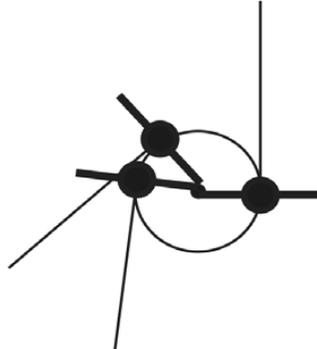

Fig 4.3.6.i
- h) The correct piloting technique is to walk a circle at the centre of the 3 m centre circle with centre of this circle remaining at the extremity of the pilots' left shoulders except when allowing space for an overtaking pilot (Fig 4.3.6.i).
- ii) the lines are perpendicular to the pilot's shoulders. When the pilot is positioned correctly the lines form a tangent to the pilots' walking circle (Fig 4.3.6.i), and